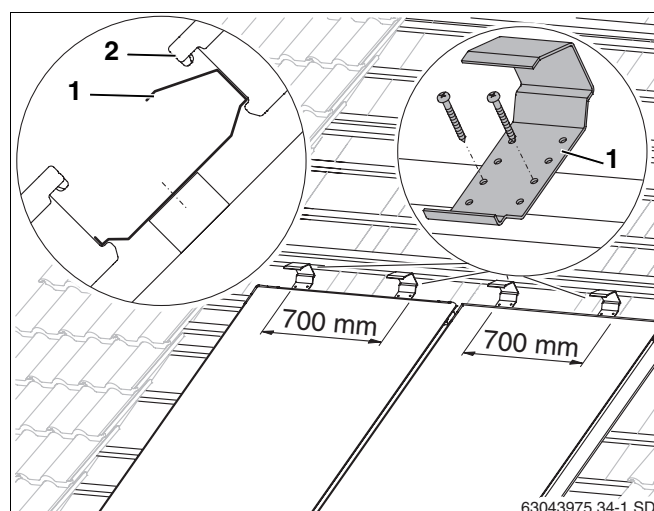

Fig. 29 Anti-slip protection devices for the second collector array
- ▶ Put two anti-slip protection devices (Fig. 29, **Item 1**) per collector, halfway along (700 mm apart) over the lower collector onto the fourth additional batten on the lower row, and fasten with two 4x40 screws.
- ▶ Allow the collectors in the upper row (Fig. 29, **Item 2**) to slide against the anti-slip protection devices and align with the lower row.